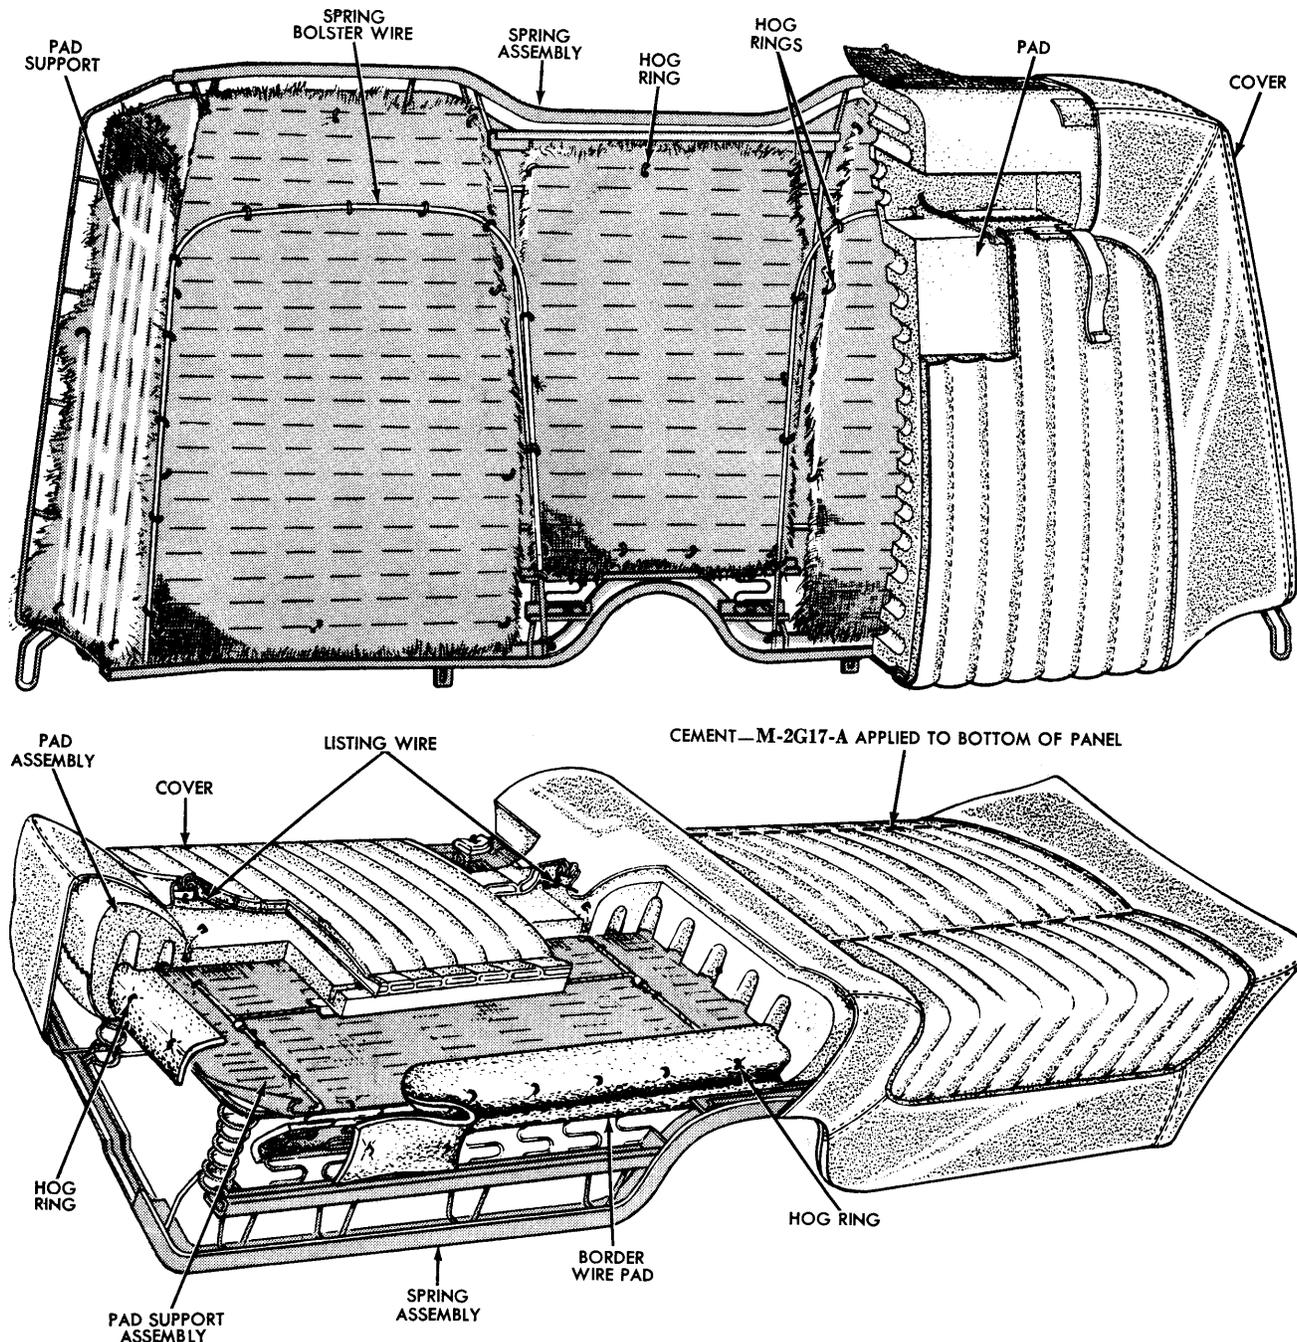

FIG. 15—Rear Seat Back and Cushion
1. Raise the front of the rear seat cushion and lift the cushion assembly from the car. Place the cushion on a clean work area. Remove the hog rings retaining the cover to the spring assembly (Fig. 15). Separate the bottom facing from the cushion cover top rear panel, and allow the facing to remain cemented to the foam rubber pad. Remove the cushion cover.
5. Apply M-2G17-A cement to the bottom of the cushion cover top rear panel and to the old facing which was left cemented to the foam rubber pad (Fig. 15).
2. Remove the hog rings retaining the cover to the spring assembly (Fig. 15) and remove the cover. Inspect the pad and spring assemblies, and repair or replace as necessary.